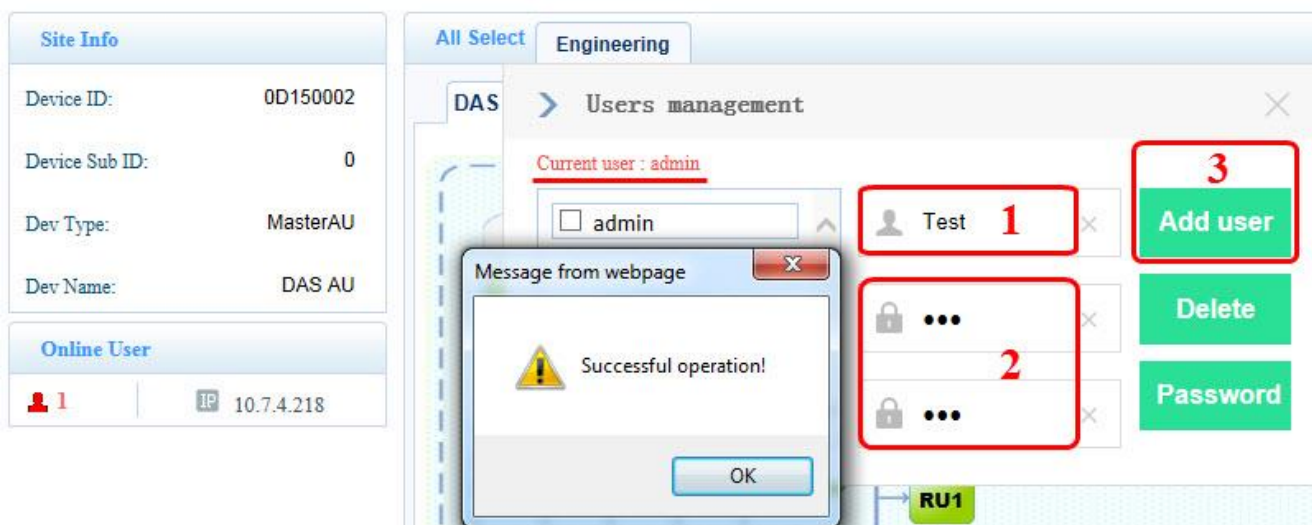

Figure 2-15 Add User
- a) Enter the new username. See **1** in the Figure 2-15.
- b) Enter the password and confirm. See **2** in the Figure 2-15.